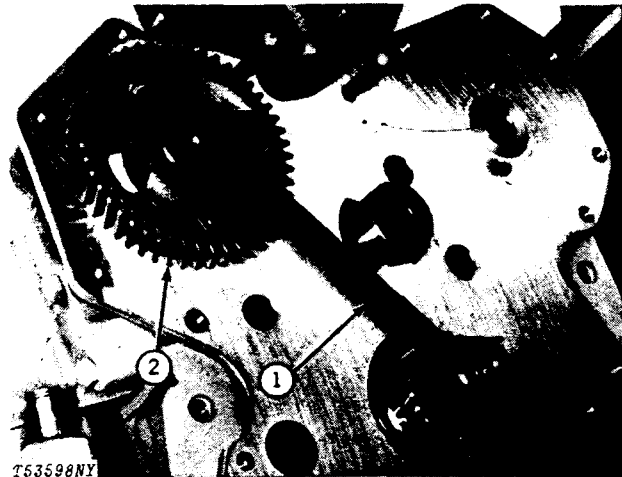

Fig. 36-JD-254 Timing Tool
Using JD-254 Timing Tool (1, Fig. 36), align timing mark on camshaft gear (2) with the timing tool.